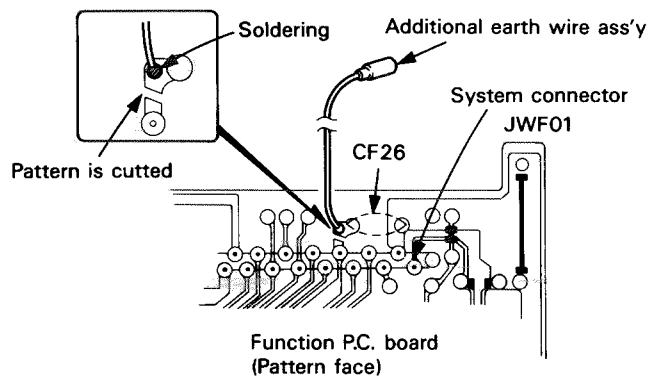

Fig. 3 Pattern face of function P.C. board
- (2) Addition of earth wire ass'y connected to CD tuner section
- ① The pattern on the system connector side of ceramic condenser CF26 is out as indicated in Fig. 3 below.
- ② Change of CF26 ceramic condenser (Parts No. QCBB1HK-151Y) to QCF11HP-473.
- ③ Addition of ceramic condenser (Parts No. QCVB1CN-103Y) on the opening around C25 on the function P.C. board.
- ④ Addition of bus wire (Parts No. QWY123-17.5Y) on the opening around BD603 on the Function P.C. board.
- For further details regarding Items ① ~ ④, refer to the function P.C. board diagram on page 64.